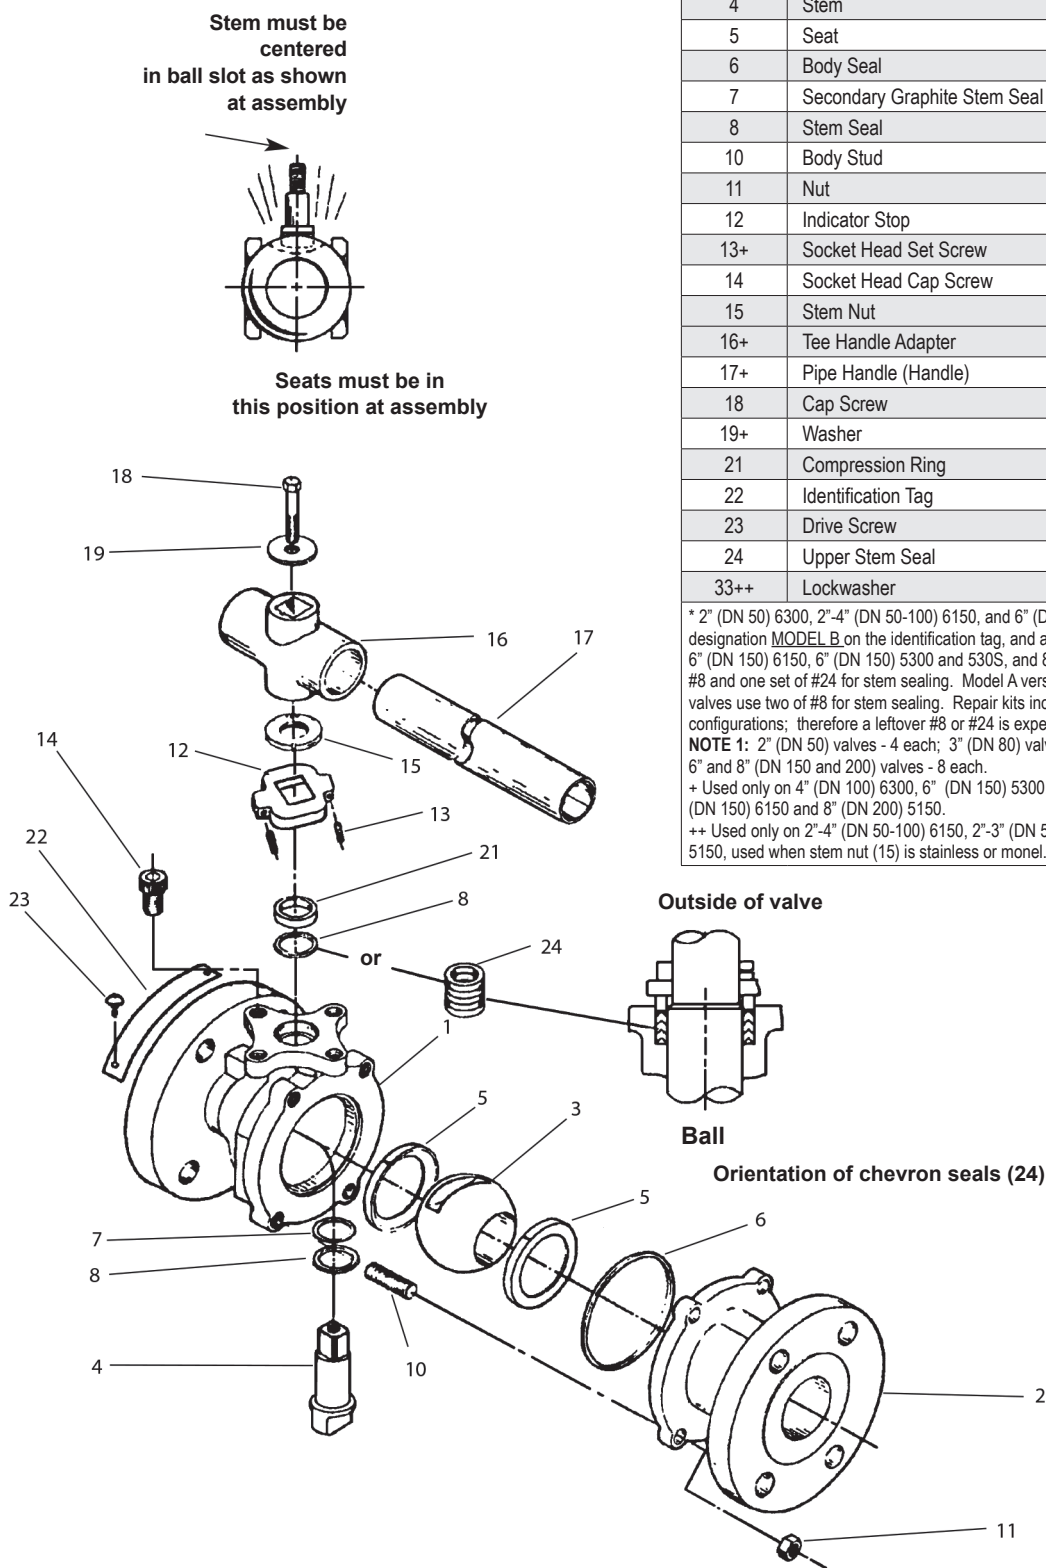

Figure 1.
1. Standing the body (1) carefully on end, drop in one seat (5) with the flat surface on the bottom. See exploded view (**Figure 1**).
2. Insert the secondary stem seal (7) and the bottom stem seal (8) into the body from the inside (**See Figure 1**). Insert the stem (4) from inside the valve body through the seals and bonnet of the valve. Next, insert the top stem seal (8 or 24), the compression ring (21), and the indicator stop (12), making sure that the side marked "**BOTTOM**" is down. Add lockwasher (33) and screw on the stem nut (15) with the side marked "**TOP**" being up.
4. Insert the ball (3) rotating it onto the stem (4) in the closed position. Gently rock the ball to make sure the stem is centered in the ball slot (**See Figure 1, stem- to-ball location**).
5. Gently press the body seal (6) into the machined recess of the body (1).
6. Insert the second seat (5) into the body cap (2) so that the sealing surface of the seat is toward the ball. (**See Figure 1**).
7. Insert the body cap (2) with the section marked "**TOP**" in line with the stem. Lubricate the nuts and studs with Never-Seez® or equivalent. Install nuts (11) on the body studs (10) and tighten sequentially as shown in the sequential diagram and torque chart (**Table 2**).
- From **Figure 1**, the ballooned part number, part name and quantity required.